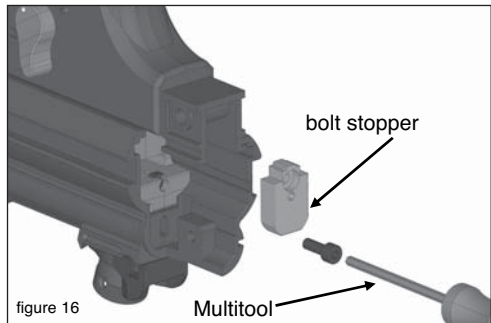

figure 16
6. Remove the breech fixing part with the multi-tool or by hand. (figure 16)